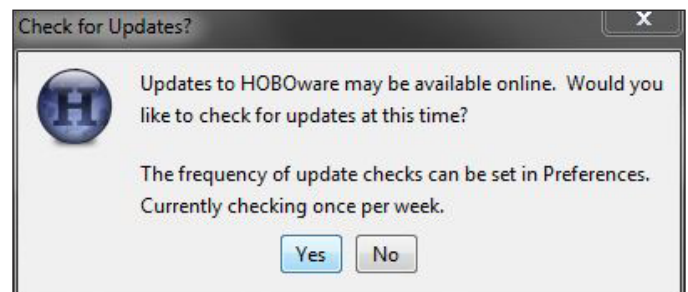

Figure 2.4. Screen capture showing HOBOWare Pro **Check for Updates?** dialog box.
6. Open HOBOWare Pro software and download all the available updates, if prompted (fig. 2.4)